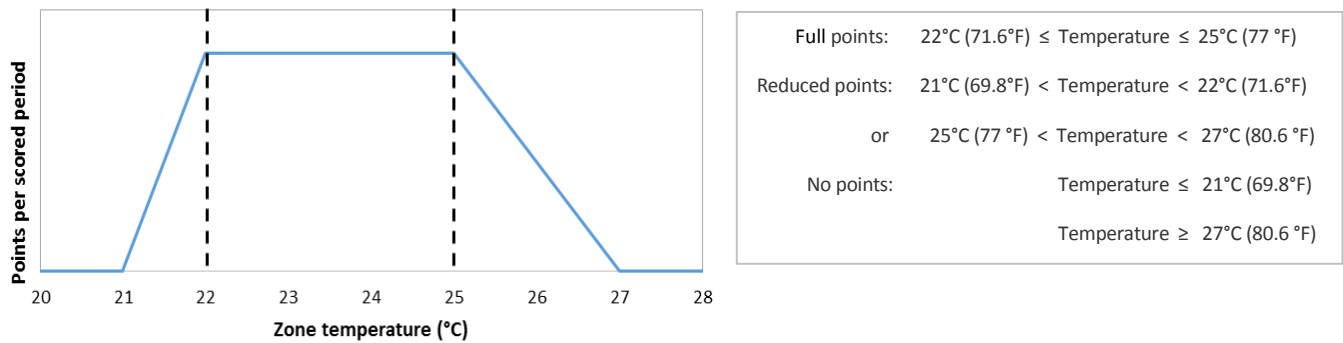

Figure 4.1: Temperature sub contest point distribution
a. Reduced points are earned if the time-averaged interior dry-bulb temperature is between 21°C (69.8°F) and 22°C (71.6°F) or between 25°C (77 °F) and 27°C (80.6 °F). Reduced point values are scaled linearly, as shown in Figure 4.1.